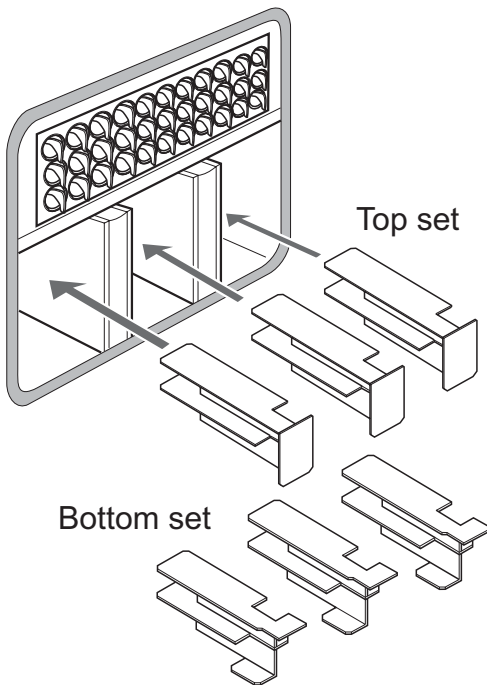

Fig. 28 - 26/36 and 36/46 baffles
- 7 Pull out the spiral turbulators from the heat exchanger tubes. See Fig. 28. Clean the turbulators using a stiff brush. Test the heat exchanger condensate drain by pouring water into one of the lower tubes and observe whether the water discharges from the 22 mm condensate outlet. Replace the turbulators.